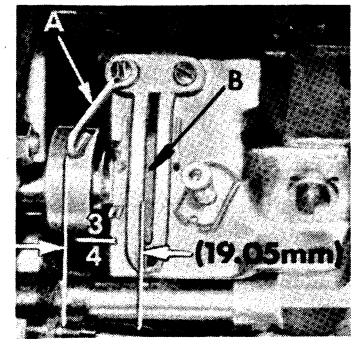

Fig. 15
Set looper thread guide eyelet (A, Fig. 15) so its left outer surface is $\frac{3}{4}$ inch (19.0mm) from the left side of looper thread take-up (B), (See Fig. 15).